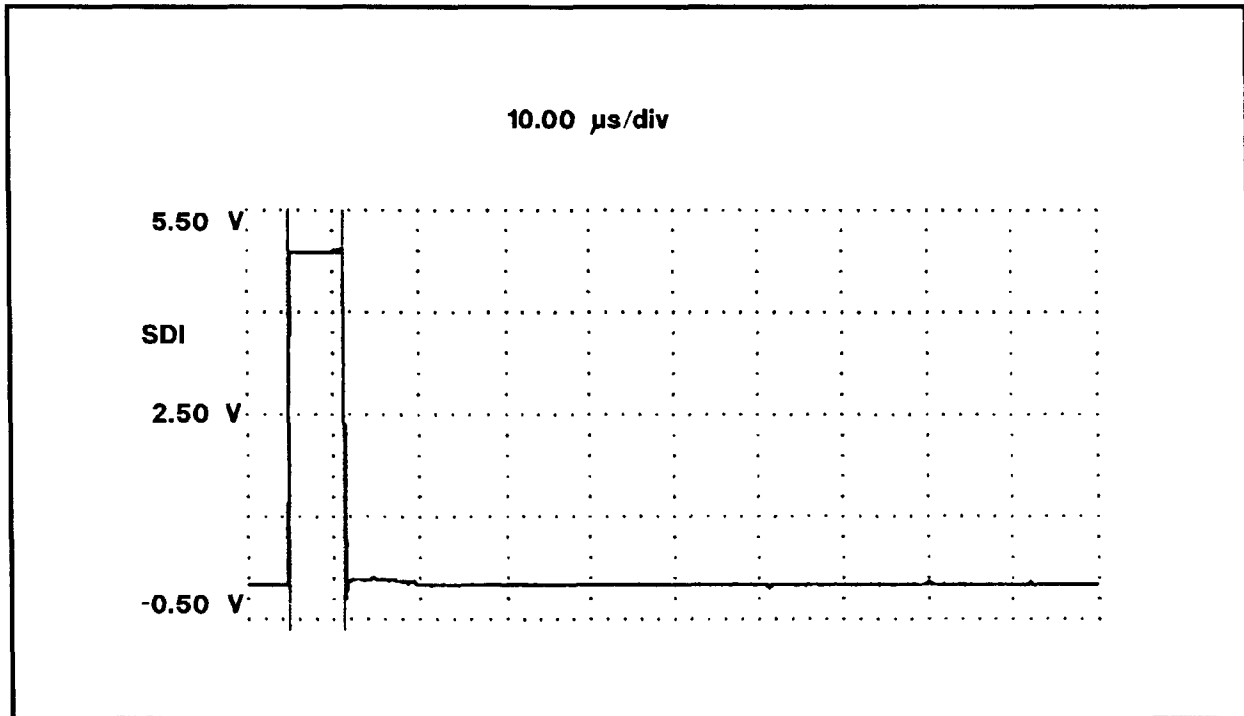

Figure 3-27. TEST 1 or COMMON 1 Scanner PCB SDI Waveform.
9. Observe the TEST 1 Scanner PCB SDI on U2-pin 2 (5832) and compare with Figure 3-27 while running the Relay Check utility again. To repeat this test, press R at the menu. If the waveform is different, then troubleshoot input buffer U1-pin 1 (input), and pin 2 (output). If /SDI is absent, then refer to the Digital PCB troubleshooting section pertaining to the scanner interface. If /SDI waveform appears to be loaded down, then it may be necessary to isolate the fault by removing the other Scanner PCBs from the backplane until the fault is found.